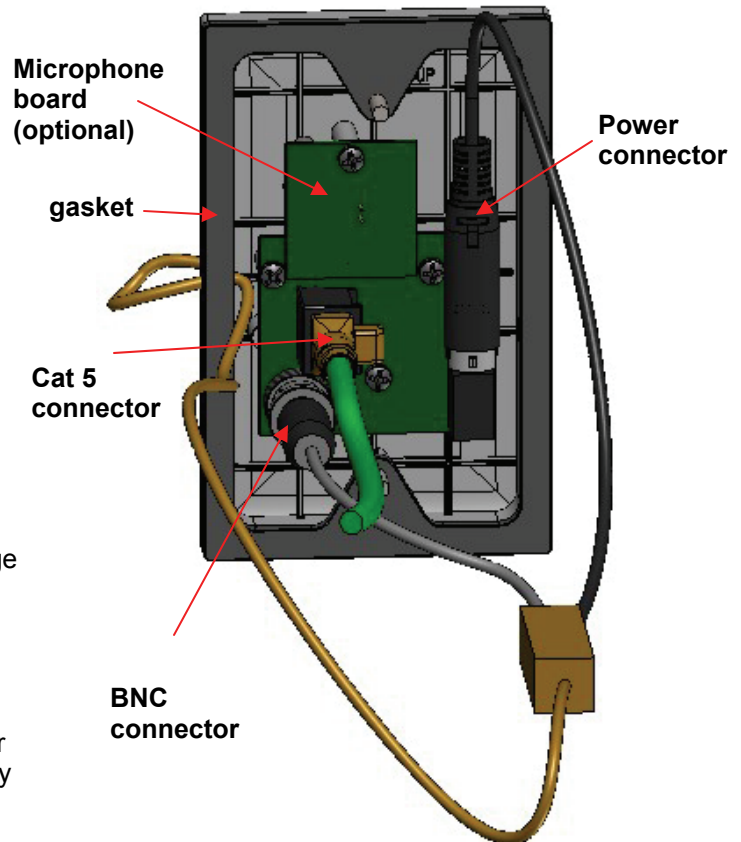

Figure 3
- A circuit board (see **Figure 3**) is provided which should be installed on the rear of the supplied custom mounting plate with the three screws provided (connectors facing out).
- The cable from the IR Camera is pre-terminated with two ends, one is a BNC type connector and the other is a power connector. Plug the BNC connector into the BNC jack on the circuit board and the power connector into the power jack on the circuit board (see **Figure 3**).
- If an optional microphone circuit board (see **Figure 3**) was ordered, install it by carefully pushing it onto the six pins protruding from the previously mounted circuit board and secure it with the provided screw.
- G. Place the supplied gasket (see **Figure 3**) around the perimeter of the mounting plate, and plug the Cat 5 cable into the RJ45 jack on the circuit board (see **Figure 3**).